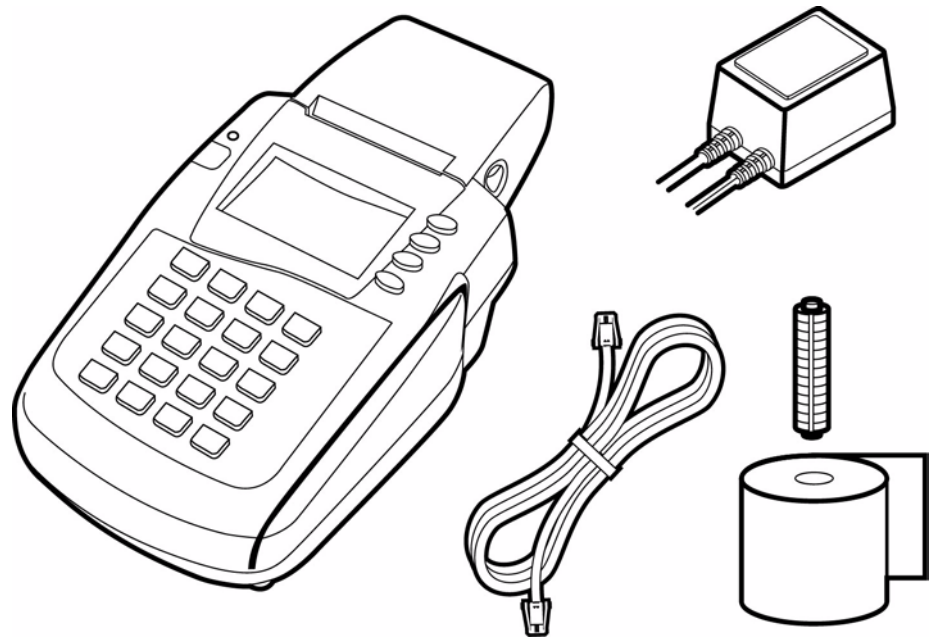

Figure 2 Omni 3200SE/3210SE Product Components
- 1 Remove and inspect the following items (see Figure 2):